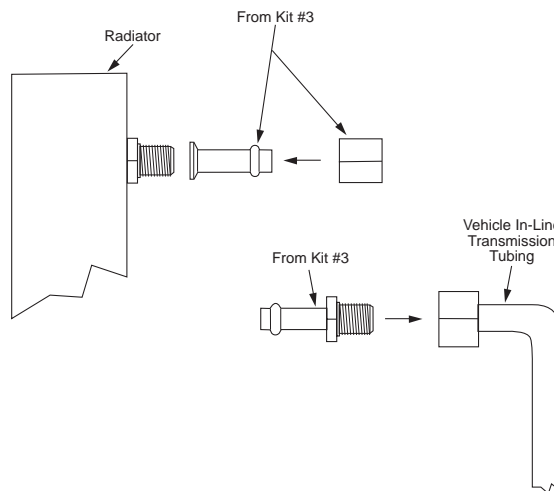

Figure 61. Kit #3 Installation on Dodge Ram
The quick connect fitting in the Dodge Ram transmission cooling line (at the radiator) requires a removal tool that is not supplied. See SNAP IN STYLE FITTINGS for tool information. The #3 kit male fitting goes on the end of the steel line and the female fitting goes on the radiator (see Figure 61).
2. Insert the small kit #3 fitting into the receptacle and continue pushing until the plastic clip in the receptacle engages the fitting (see Figure 61).